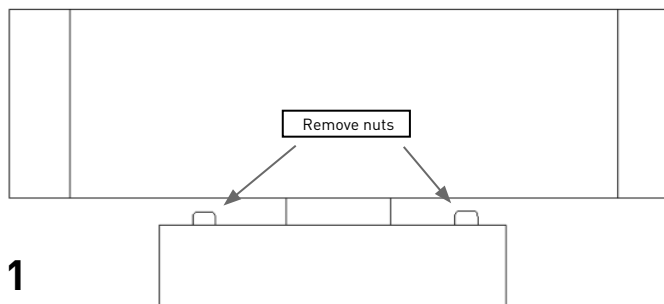

Fig 1
- Using a 7mm spanner, remove the two nuts securing the baseplate of the luminaire (see Fig 1)